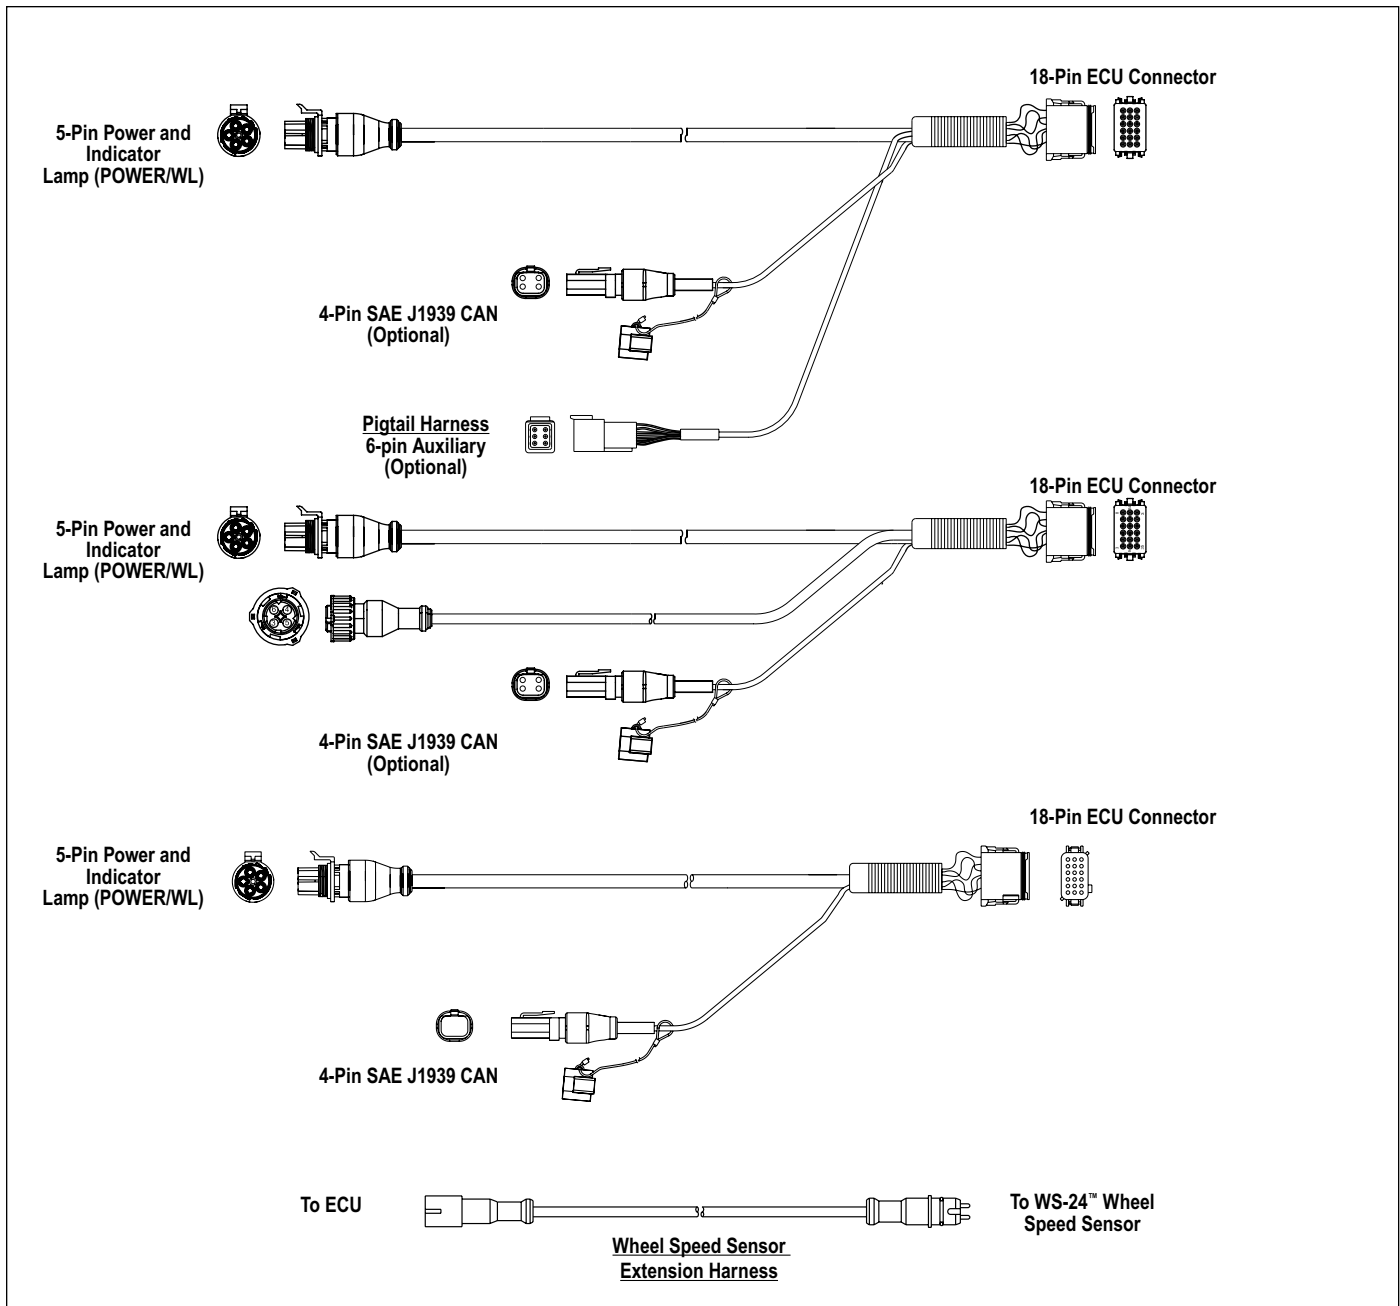

FIGURE 6 - EXAMPLES OF PIGTAIL WIRE HARNESSSES
- Pigtail Wiring Harness:** A power pigtail harness is required, variations that include auxiliary sub-harnesses are available, as needed. See Figure 6.
- Load Sensor:** If a trailer is equipped with an external electrical spring deflection sensor, See Figure 3, a linkage is attached to an axle (but must not be installed on a lift axle) — within 5 (five) inches of the center of the axle — connects to a load sensor attached to the chassis of the vehicle. The output from the sensor is an electrical signal that is proportional to the spring deflection. The connection to the Electronic Control Unit (ECU) is via an auxiliary sub-harness (part of the power harness). See Figure 6.
See Figure 6.